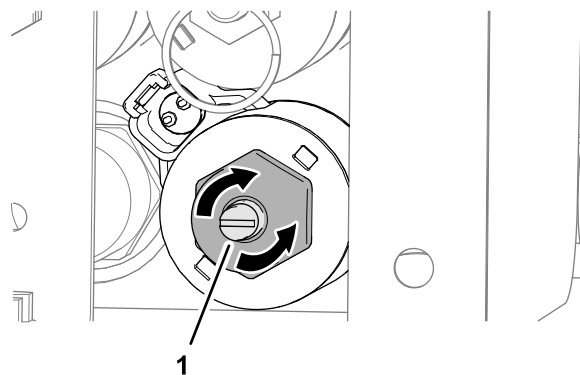

Figure 32
- Rotate the hex-head screw for the valve override clockwise to increase the floor speed (Figure 32).